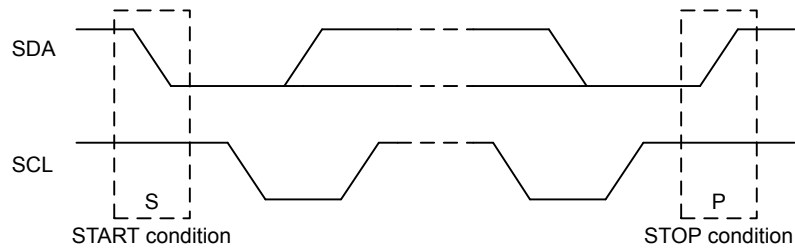

Figure 22.4. I²C START and STOP Conditions
START and STOP conditions are used to initiate and stop transactions on the I²C-bus. All transactions on the bus begin with a START condition (S) and end with a STOP condition (P). As shown in Figure 22.4 I²C START and STOP Conditions on page 681, a START condition is generated by pulling the SDA line low while SCL is high, and a STOP condition is generated by pulling the SDA line high while SCL is high.